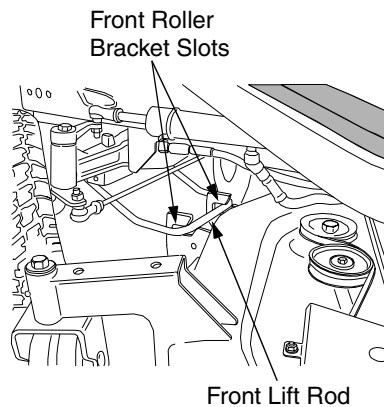

Figure 38
7. Roll the deck forward to disengage the front lift rod from the slots of the front roller bracket (See Figure 38). Hold the front lift rod upward and slide the deck rearward until the lift rod rests on top of the roller bracket, forward of the slots.
9. From the side of the tractor, raise the front lift rod and roll the deck forward until the lift rod aligns with slots of the deck front roller bracket. Lower the lift rod into the front roller bracket slots and slide the deck rearward to engage the lift rod fully forward in the slots of the roller bracket (See Figure 38).